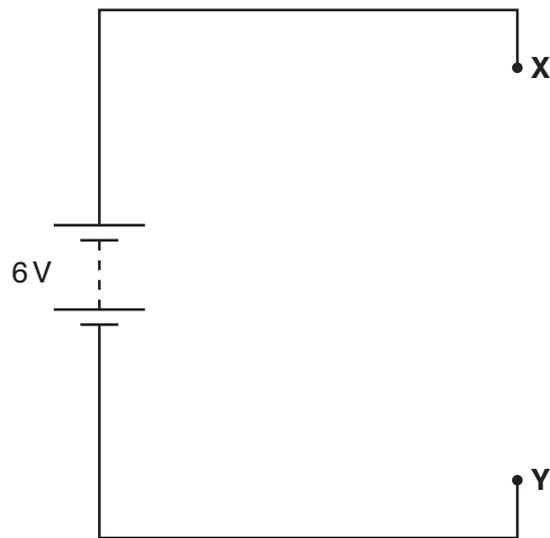

**Fig. 2**
- 2 Fig. 2 shows a docking station for a mobile phone.
- (a) State a suitable material for a docking station of the type shown in Fig. 2 **and** give **two** reasons for your choice. [3]